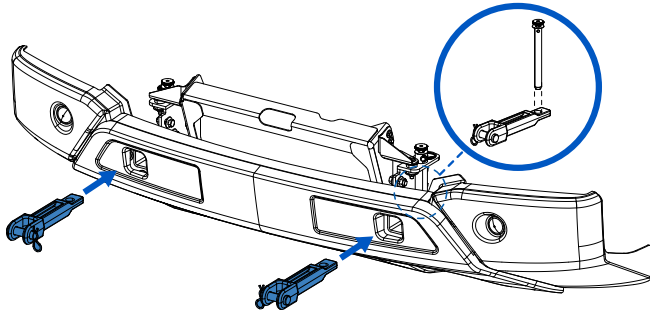

Figure 32 - Tow hooks and locking dowel
3. Insert the tow hooks into the openings of the bumper cover (Figure 32).